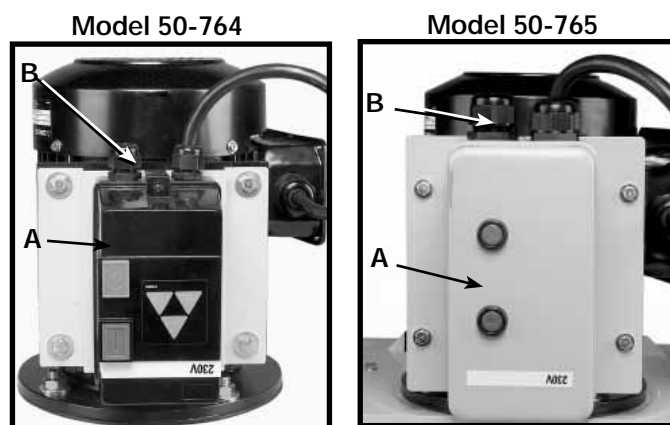
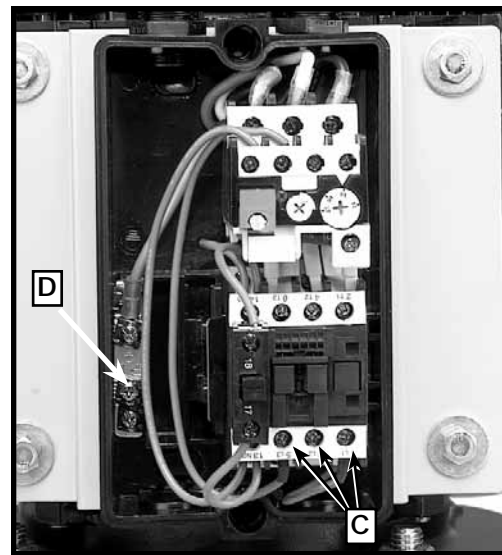
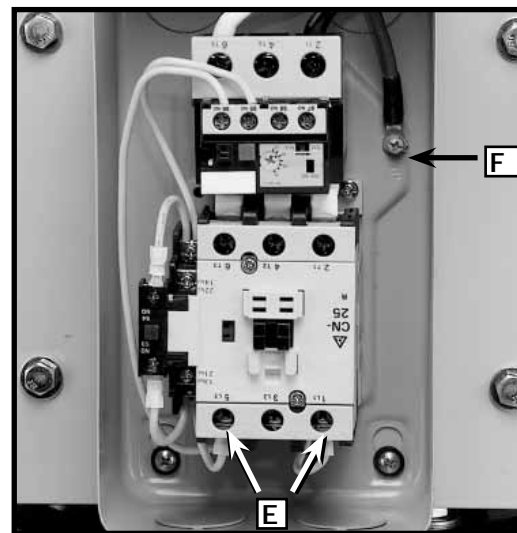

Fig. 14
Fig. 15
Fig. 16
1. To connect the dust collector to a power system, remove controller cover (A) Fig. 14.
2. Bring three phase power line through the access hole (B) Fig. 14, in the top of controller box and connect the three power lines to terminals (C) Fig. 15, and the green ground wire to ground screw (D).
- After connecting the power cord to the machine, make certain the rotation of the motor is in the proper direction by viewing the rotation of the blower fan. The fan should rotate in a clockwise direction. Rotation of the motor can be reversed by interchanging any two of the three incoming power lines connected to terminals (C) Fig. 15.
- To connect the dust collector to a power system, remove controller cover (A) Fig. 14.
- Bring the single phase power line through the access hole (B) Fig. 14, in the top of controller box and connect the two power lines to terminals (E) Fig. 16, and the green ground wire to ground screw (F).